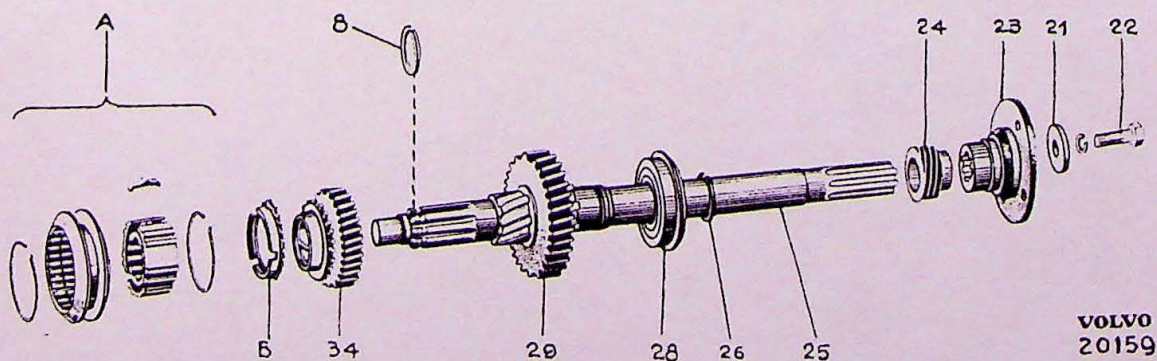
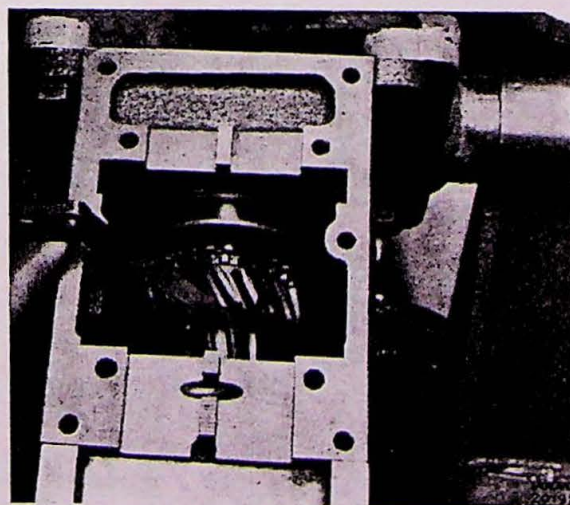

Fig. 15.
Fig. 19.
1. Press on ball bearing (28, fig. 15) by means of driver SVO 4028.
4. Drive on the companion flange (23), fig. 15 with driver SVO 4034. Check first that the
2. Insert main shaft in gearbox housing and install as follows: 1st speed sliding gear (29), 2nd speed sliding gear (34), synchronizing cone (B) and synchronizing device (A), fig. 15.
3. Fit the synchronizing device snap ring (8, fig. 15) on main shaft.
Check the axial play between the 2nd speed gear and the main shaft shoulder. Max. axial play 0,05 mm (.002"). (See fig. 19). Axial play can be adjusted by means of the snap ring (8, fig. 15). Different thicknesses are available.